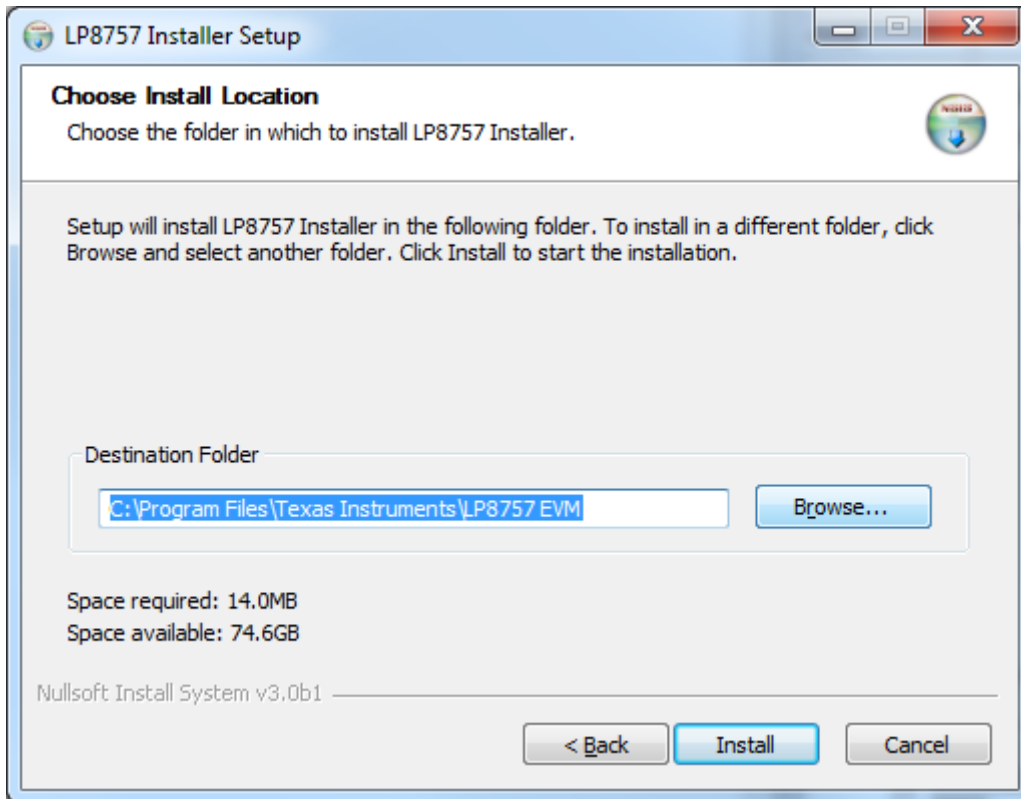

Figure 3-3. LP8757 Destination Folder
4. Installer prompts to select Destination Folder (see Figure 3-3).